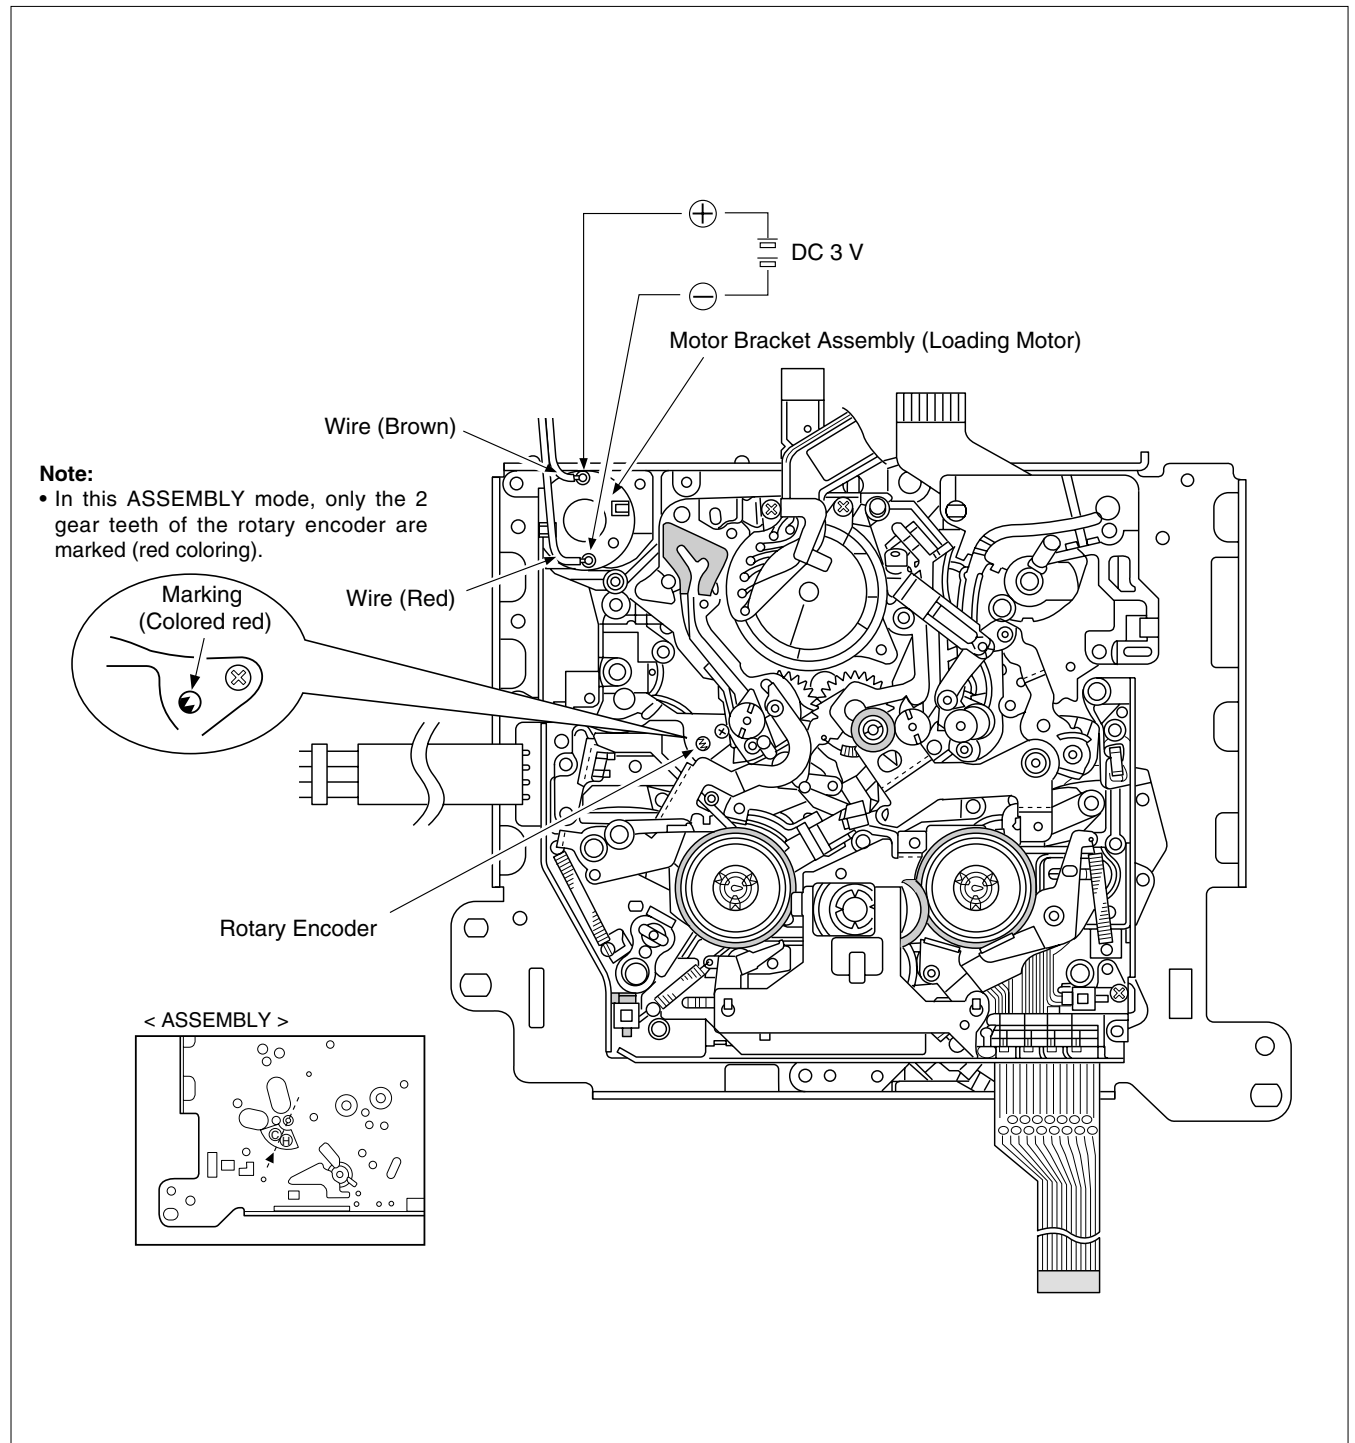

Fig. 2-10-7
To set the ASSEMBLY mode, apply 3 V DC to the electrodes on the upper part of the loading motor as shown in Fig. 2-10-7.
- *This mechanism assembly has another ASSEMBLY mode. However, this mode cannot be identified from the markings because it corresponds to an intermediate position between the C-IN (C) mode and S-FF (H) mode. This mode can be confirmed by the rotary encoder phase. See Fig. 2-10-7.*